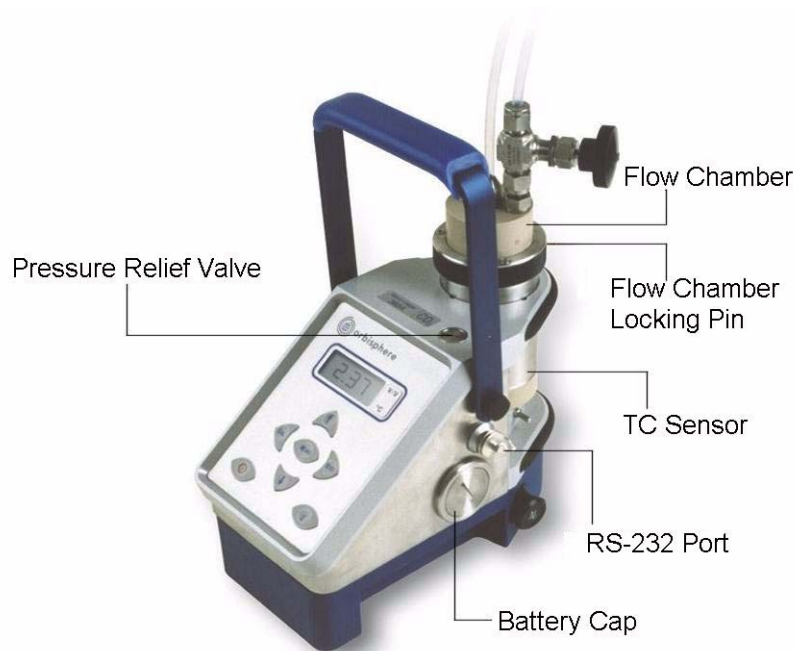

Fig 1-1: ORBISPHERE 3654 Portable Analyzer
Locate the instrument close to the sample being analyzed, and to the Personal Computer (PC) if one is being used. A LEMO-6 connector for RS-232 serial output to a PC is on the right side of the instrument (see Fig 1-1 above).
To ensure the pressures are equal, simply press the relief valve switch located on the top of the instrument (see Fig 1-1 on page 9) and hold it down for about 5 seconds before releasing.
In addition to the controls indicated on the front panel, there is also a pressure relief valve on top of the instrument (as indicated in Fig 1-1 on page 9). This button need only be pressed as part of the installation procedures, and/or if pressure builds up inside the instrument due to large temperature changes.